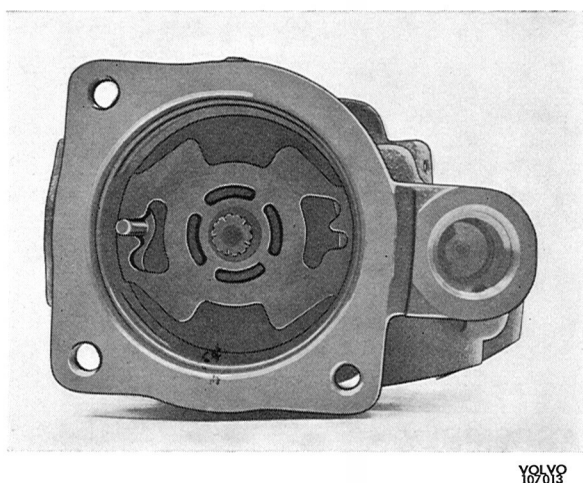

Fig. 6-108. Inner plate installed
2. Apply universal grease between the lips of the seal (8) and press it in with drift 2997.
3. Place the O-ring (12) in position in the inner groove of the housing.
4. If the bearing (6) has been removed, press the shaft into the bearing. Install the circlip (7) in its groove.
5. Install the shaft with bearing. Install the circlip (5) in its groove.
6. Place the O-ring (13) in its groove on the plate (14). Install the plate as shown in Fig. 6-108.